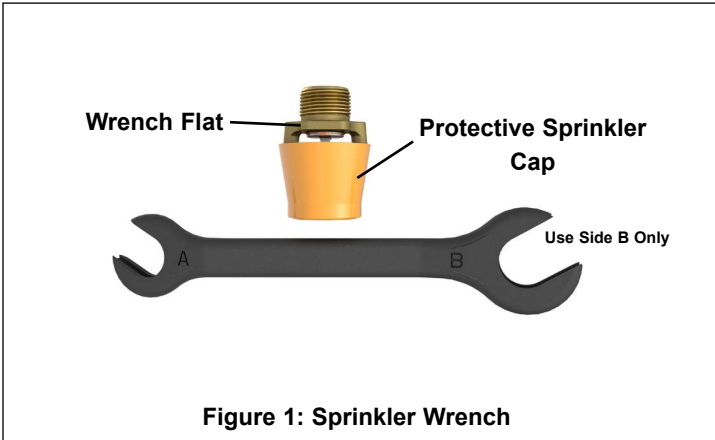

Figure 1: Sprinkler Wrench
- D. **Use ONLY sprinkler wrench 13635W/B (shown in Figure 1) for installing VK506. With the sprinkler contained in the protective cap, install the sprinkler onto the piping by applying the sprinkler wrench to the sprinkler wrench flats only, while taking care not to damage the sprinkler operating parts.**
Sprinkler Wrenches (see Figure 1):